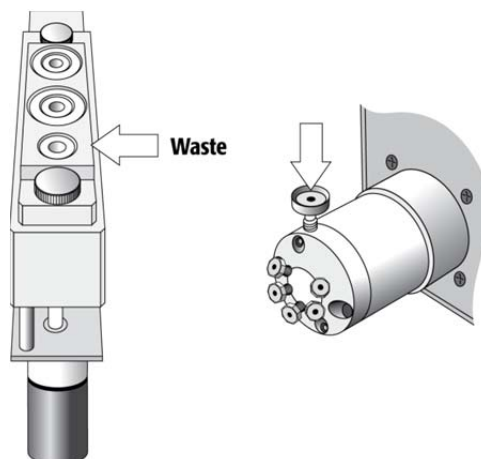
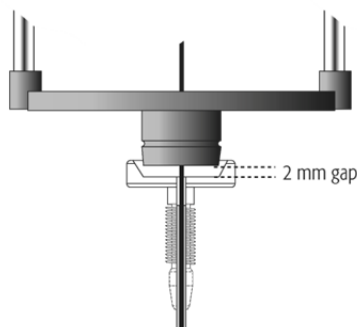

Figure 36. LC Valve and Waste Reference Position
Figure 37. Positioning Z-Axis Needle Guide on Valve Needle Guide
For an **LC Valve** the reference position for the valve needle guide fitting is mounted on the top valve port (see Fig. 36). The lower needle guide of the Injection Unit should be centered in the valve needle guide fitting. Adjust the Z-Position so that the bottom of the lower needle guide just touches the surface of the valve needle guide fitting. **Then reduce the value by 2.0 mm.** See Figure 37.
For the **Waste Port** the reference position is a hole (slightly larger than the needle guide) placed in front of Wash2 (see Fig. 36). The lower needle guide should be centered in this hole with the bottom of the lower needle guide lightly touching the surface of the Wash Station assembly.
3. Place the syringe in the appropriate syringe adapter. Pull the plunger out to approximately 20% of its length (See Fig. 37);